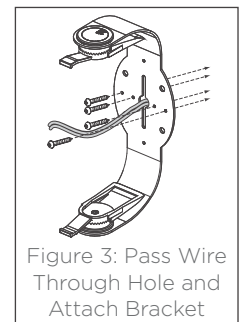

Figure 3: Pass Wire Through Hole and Attach Bracket
1. In most cases you will be able to attach the FastMount brackets directly to the mounting surface. Run the speaker wires from the amplifier to the speaker locations and through the holes in the brackets if used (see figure 3).
2. Attach the FastMount brackets to the mounting surface using hardware (not included) that is appropriate for the type of surface (see figure 3).